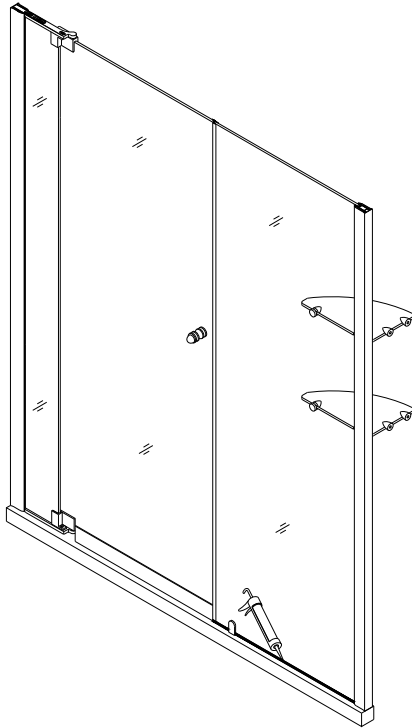
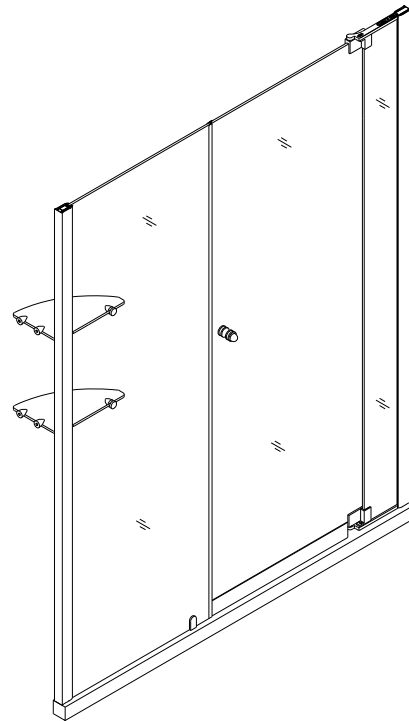

Fig 23
Fig 24
23. Apply silicone sealant between the tray or threshold and the stationary glass and the accessory. See Fig 23 for details. (Fig 23 is left door open; Fig 24 is right door open.)
NOTE: If you need another direction for the door opening, you need only to exchange the position of the wall profile for stationary glass (1) and the pivot assembly (12). See Fig 23 & 24